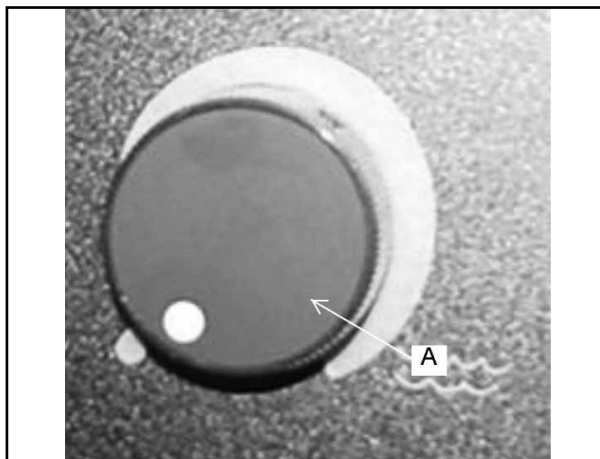

FIGURE 28
The solution flow knob (A) is located on the instrument panel as shown in figure 28. Turning the knob clockwise will increase the flow of solution and water. The farther the solution control knob is turned the heavier the flow of water and solution will be. Turning the knob counterclockwise will decrease the flow of the water and solution. To turn the water and solution off turn the knob all the way counterclockwise.